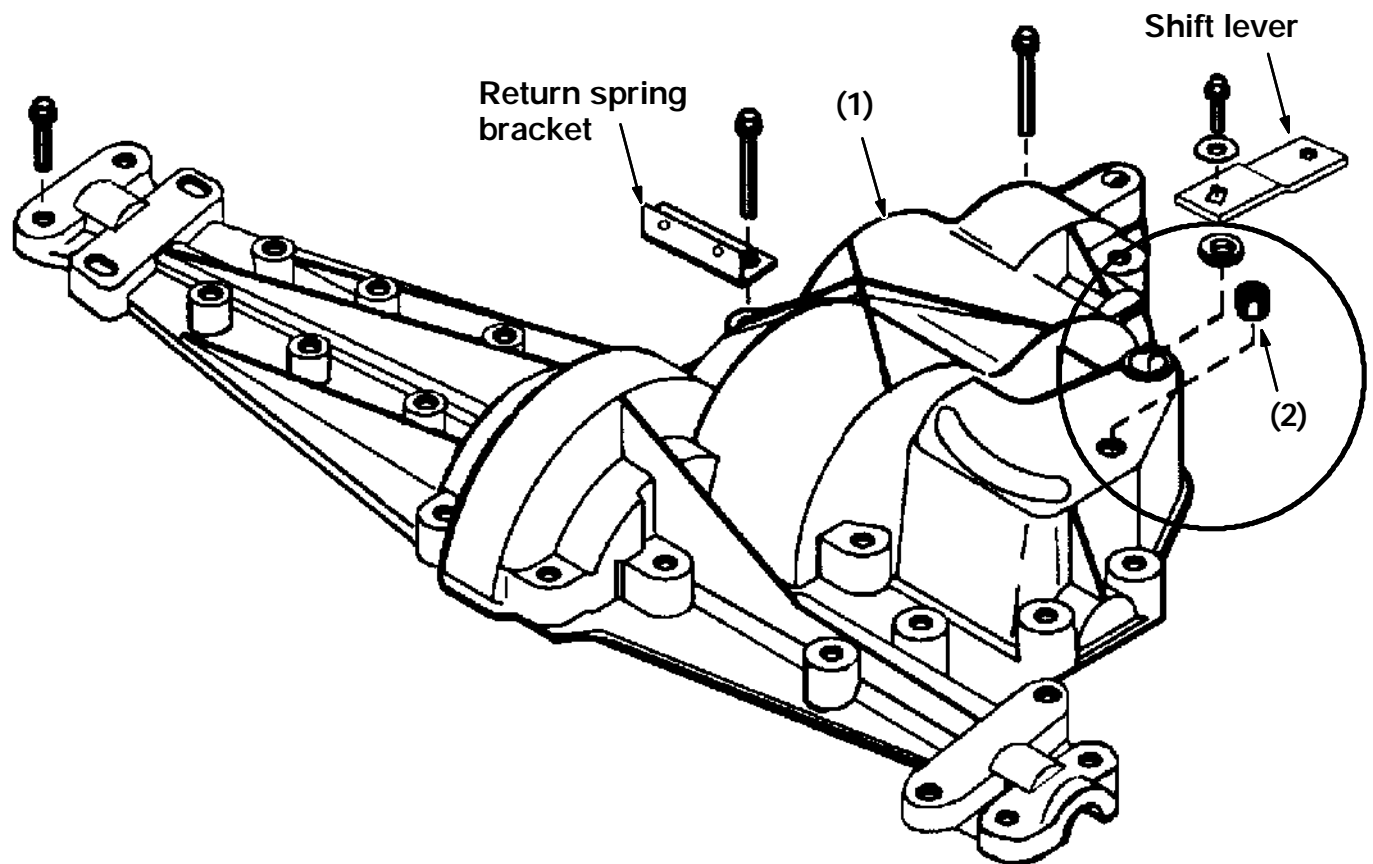

FIG. 2 - Transaxle Relief Fitting Installation
1. Remove the plug from the top of the transaxle. (Refer to FIG. 2)
2. Install the relief fitting (2) in the empty hole on top of the transaxle. Tighten firmly.
(Refer to FIG. 2)